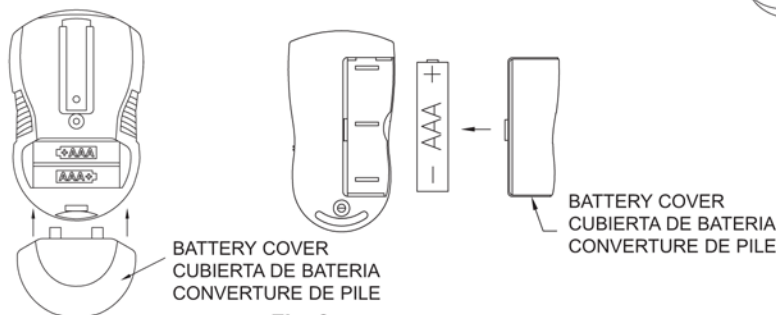

Fig. 2
Step 5-1 Battery replacement Fig. 2